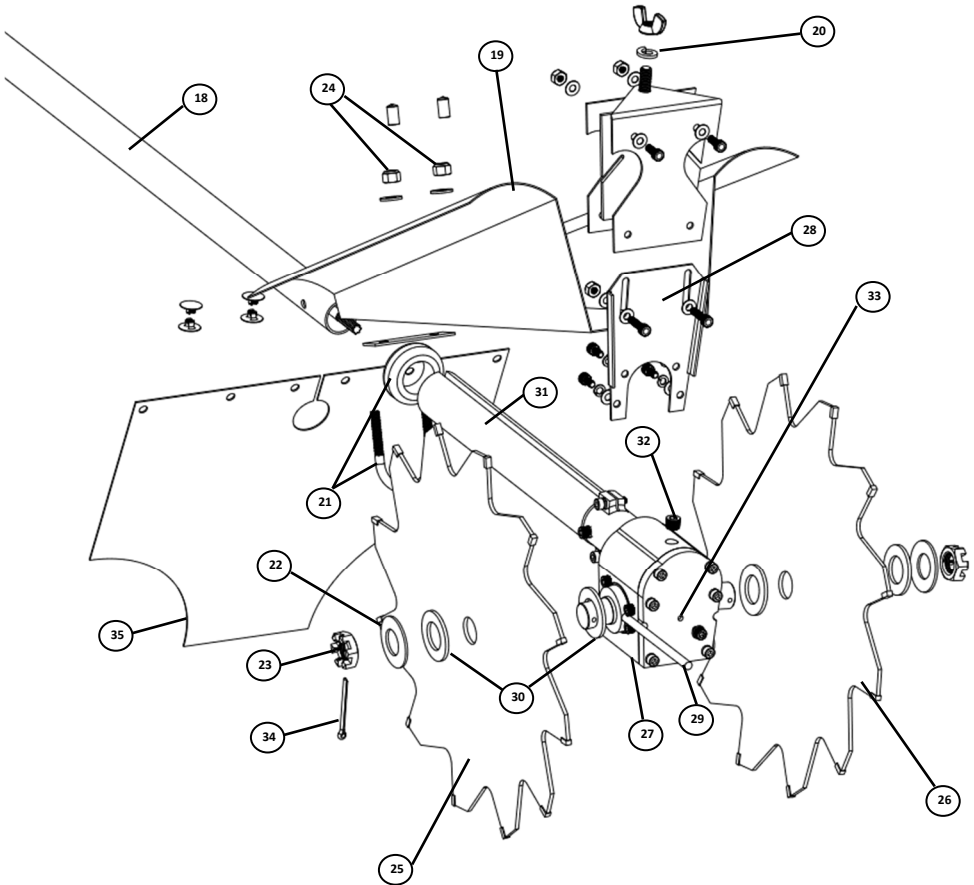

Figure 5 (some parts removed for clarity)
3. Pull the choke lever (Fig. 5, (15)) in the CLOSE position (A)